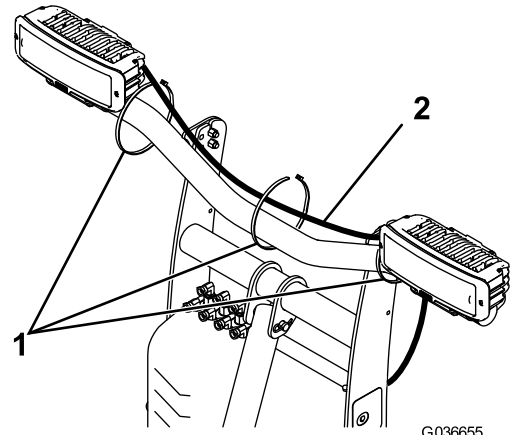

Figure 16
6. Insert the headlight connectors on the wire harness to the back of the headlight housing (Figure 16). The short length connects to the left headlight and the long length connects to the right headlight.
7. Secure the wire harness to the light bar using 3 cable ties as shown in Figure 16.